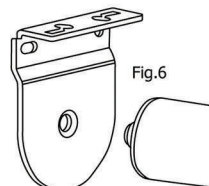

Fig.6
2. With the fabric rolled around the tubes, offer the idle end (the end with the pin to the idle end bracket) (Fig.6)